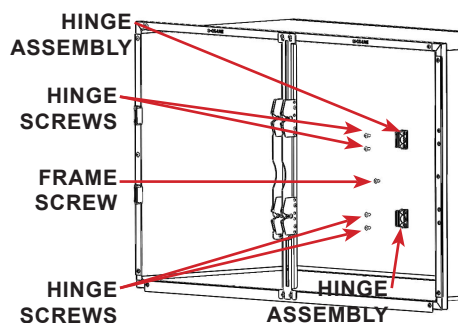

FIGURE 2.22 - Double Door Cage
**STEP 11:** DD Cage - Remove the screws (4 ea) holding the hinges, and the center frame screw between the hinges from the previous set cage. See FIGURE 2.22
**NOTICE** DD Cage latches (FIGURE 2.22) share a center latch plate, it is **NOT** necessary to remove the latch assembly on a double door cage.